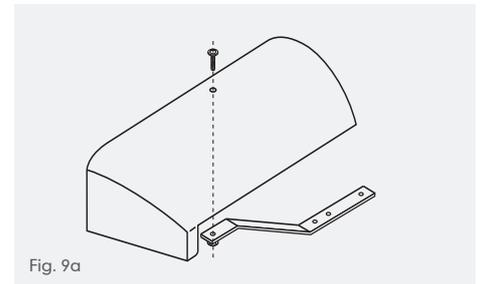

Fig. 9a
- 17 Secure block end hip bracket to underside of block end hip tile by assembling set screw and sealing washer through hole in tile to captive nut on bracket (supplied in the fixing kit) Fig. 9a